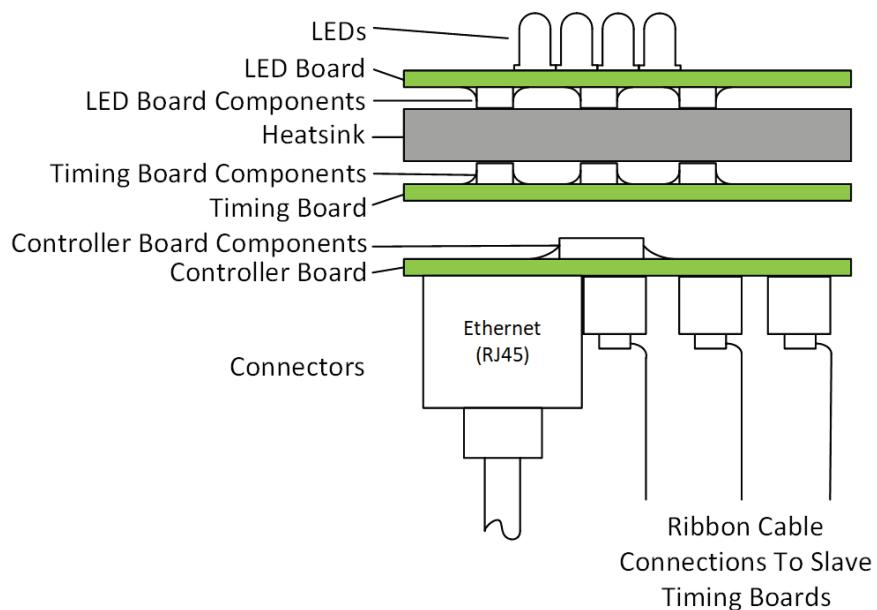

Figure 5: Flasher Board Stack-Up
- All of the LED drive ICs have been moved to the underside the board, allowing them to be bonded to a heatsink ensuring thermal uniformity (see Figure 5). The LEDs are the only components mounted on the top layer of the PCB
- All of the ICs are located on the top of the PCB allowing them to be bonded to the same heatsink as the LED board ICs (see Figure 5)
The LEDs are the only components mounted on the top layer of the PCB. All drive electronics and the multi-way connector are mounted on the bottom layer. This arrangement will allow a bespoke heatsink to be machined and adhered to the drive electronics, permitting thermal stabilisation, as shown in Figure 5.